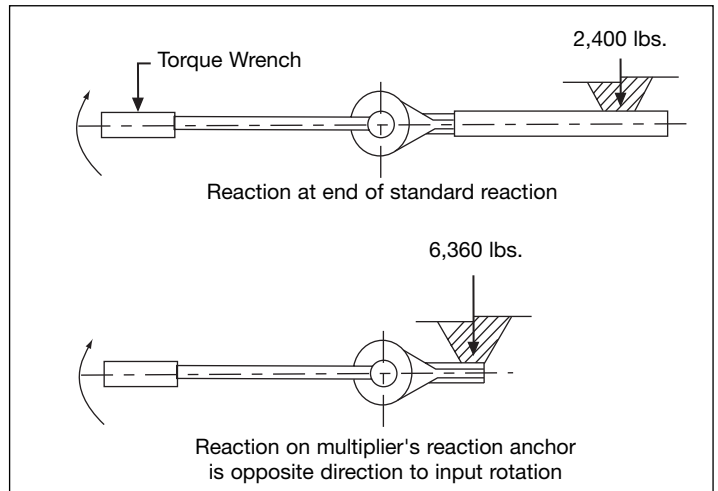
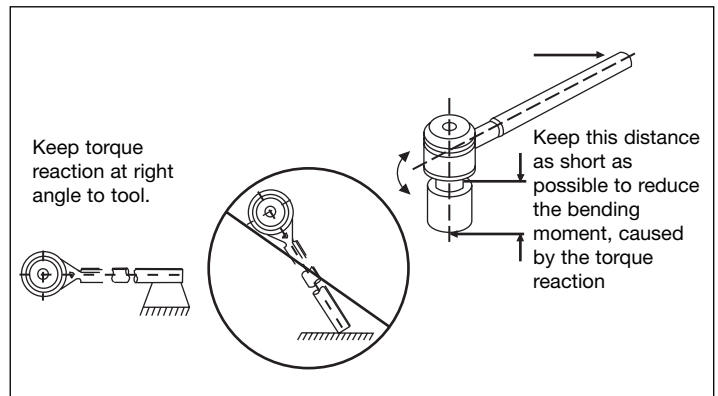

Fig. 5 – Reaction forces increase closer to the multiplier
Fig. 6 – Minimize bending moments created by the torque multiplier's reaction
5. **Increase Torque Multiplier life.** Maintain the shortest possible couple distance between the Torque Multiplier Output (Fig. 6) and the fastener being addressed. Maintain the longest distance possible between the Torque Multiplier and reaction point as possible (Fig. 5).
the torque multiplier. Apply torque with torque wrench until desired input torque is achieved (Fig. 5).
3. Select a solid anchor point to minimize deflection. Determine where the reaction anchor forces are going to take place (e.g. against a flange or over an adjacent bolt). NOTE: This point must withstand the torque tool's reaction forces. Example: A 3,200 Ft-Lb. torque multiplier, with reaction near the end of its anchor stub (figure 5) produces a reaction force of 6,400 pounds. Reduce the reaction force to 2,400 pounds by moving the reaction anchor point toward the end of an anchor tube. Keep the reaction point tangent to the rotation of the torque output to prevent increased reaction forces (figures 6 and 7).
4. Keep output torque rotation pure by reducing bending moments. Bending moments decrease torque efficiency and increase stress on the tool and sockets. Keep the distance between the tool's output and the fastener as short as possible (figure 6).
5. Increase tool life and increase working environment safety by taking torque reaction as far out on the reaction anchor as possible (Fig. 5).